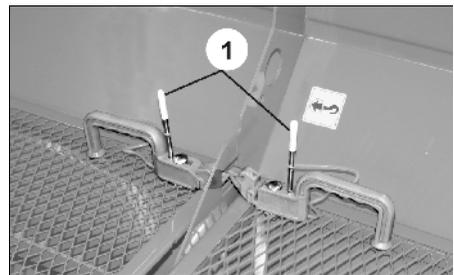

Fig. 11
- (Fig. 11/1) Parkposition (Standardposition)